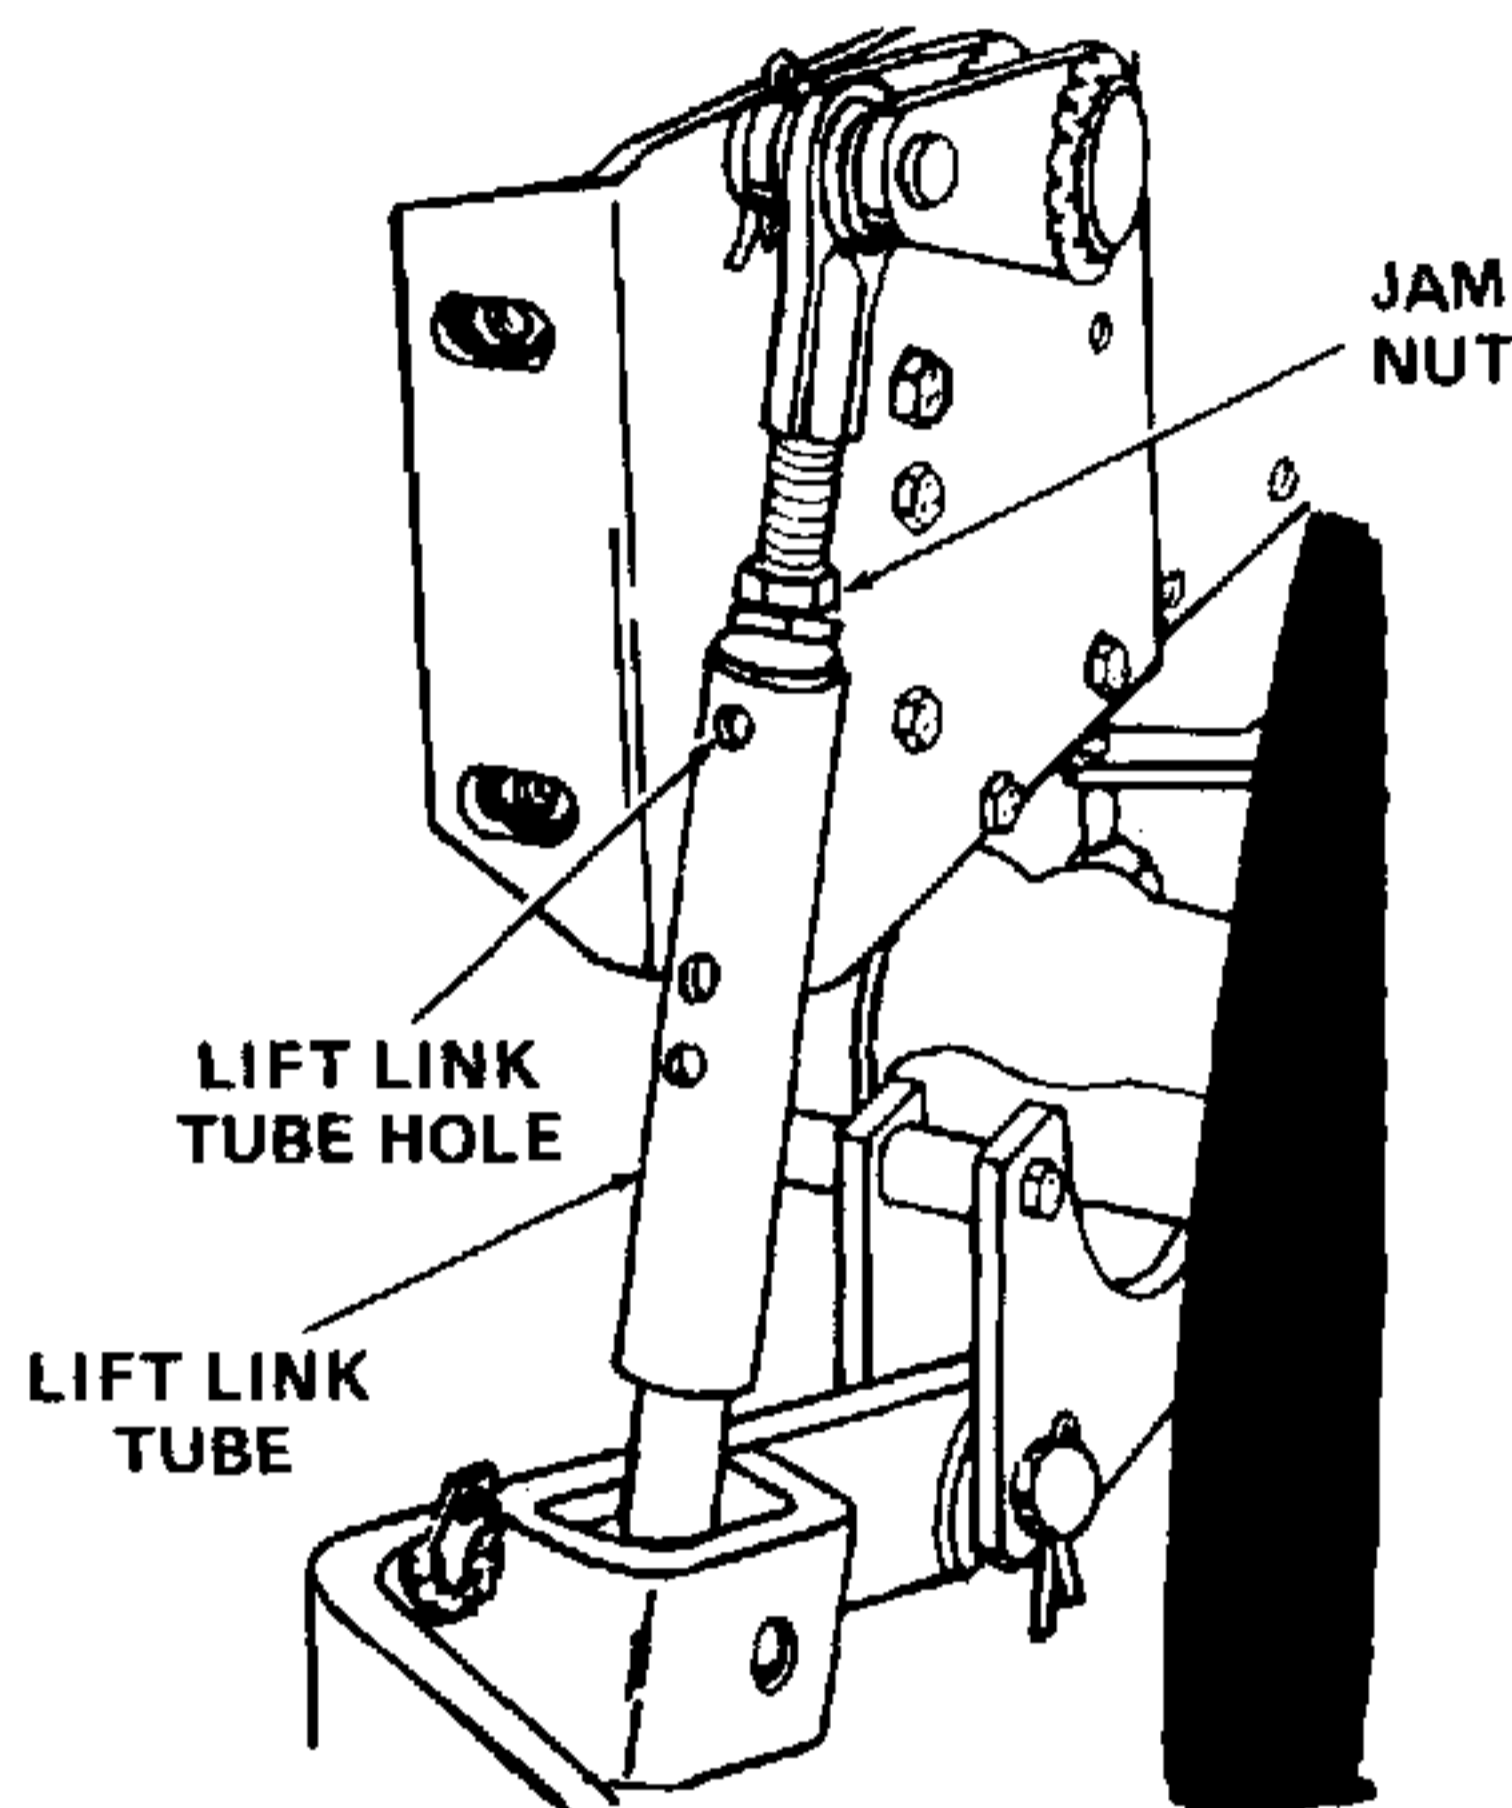

Figure 7-36. Adjusting the Lift Links.
1. Loosen jam nuts and insert round bar in hole in lift link tube. Refer to Figure 7-36.